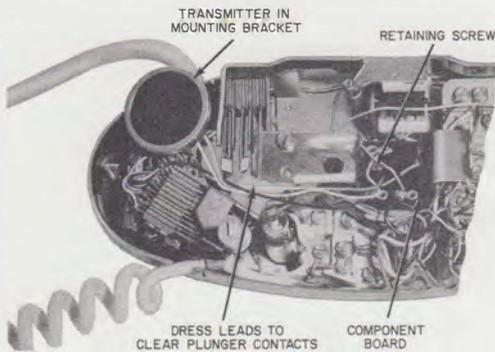

Fig. 4—664C Transmitter, Installed
- (2) Remove transmitter and component board (Fig. 4).